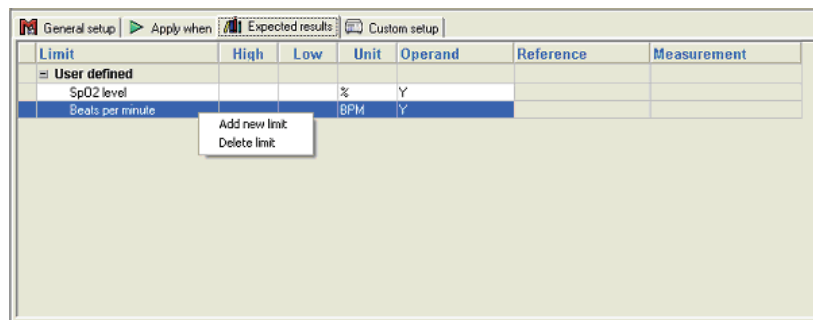

Figure 4-4. Pop-Up Menu for Adding or Deleting Limits
- To add or delete limits, right click one of the rows of the **Expected results** page and select from the pop-up menu, as shown in Figure 4-4.